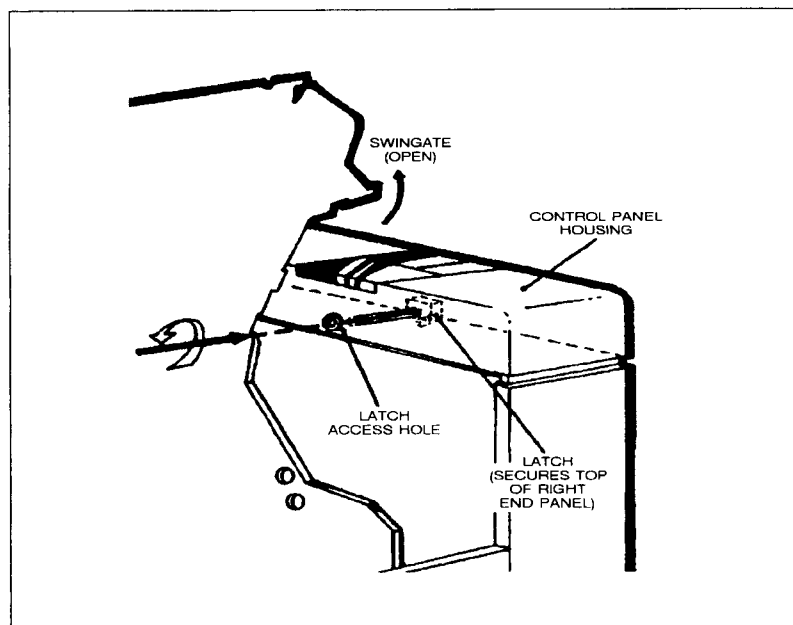

Figure 6-6. Right End Panel Removal using Shim Stock/Credit Card
- Insert a long shanked 4 mm Allen-head driver through the access hole located on the inside right wall of the control panel housing under the Operator Control Panel (see Figure 6-6).
If a long shank 4 mm Allen wrench is not available, a 5/32 inch Allen wrench or small flat blade screwdriver may be used. In a situation where none of these tools are on hand, you can insert a thin plastic card (credit card), between the Operator Control Panel housing and the top of the right end panel, to trip the latch (see Figure 6-6).